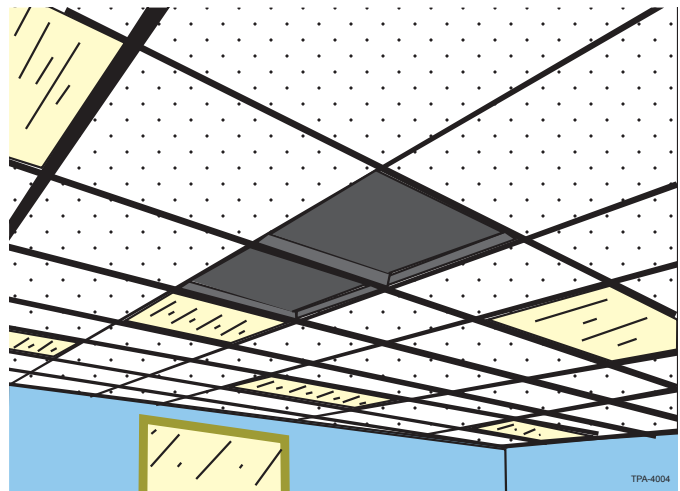

Figure 10
Step 3: Determine mounting location of FZB in the ceiling and remove two ceiling panels or tiles (Figure 10).